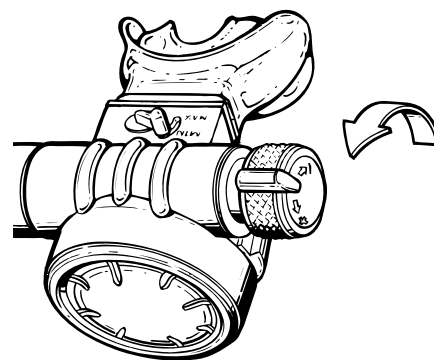

Fig. 25 - V.A.S. & Adjustment Knob Settings
5. Turn the second stage adjustment knob completely out counter-clockwise, and set the vane adjustment switch to the "MIN" position (see Fig. 25).